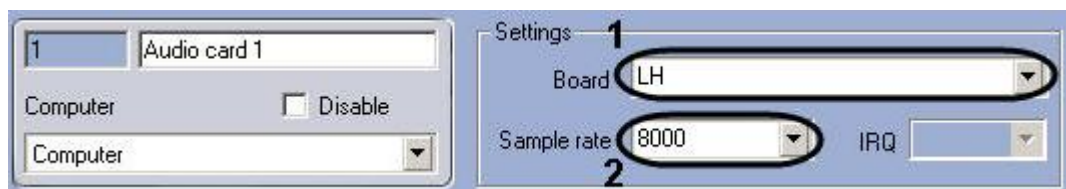

Figure 7.2-14 Configuring the audio card
- Create the **Audio card** system object under the **Computer** object in the **Hardware** tab, set the **LH** type of the video capture card (Figure 7.2-14, 1).
- Set the sample rate for audio signal processed in the **LH** (Figure 7.2-14, 2).